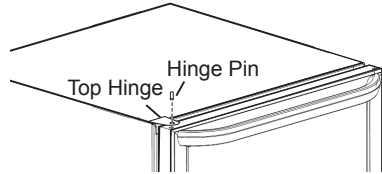

Figure 9
- Place bottom left hand corner of door onto lower hinge then tilt top of door back to clear edge of top hinge. Make sure door is level and it seals properly against cabinet then insert hinge pin through hole in top hinge and into door busing. Securely fasten with Phillips screwdriver. (See Figure 9.)
- On top edge of door, transfer the button plugs and bushing to hole on opposite side. (See Figure 9.)